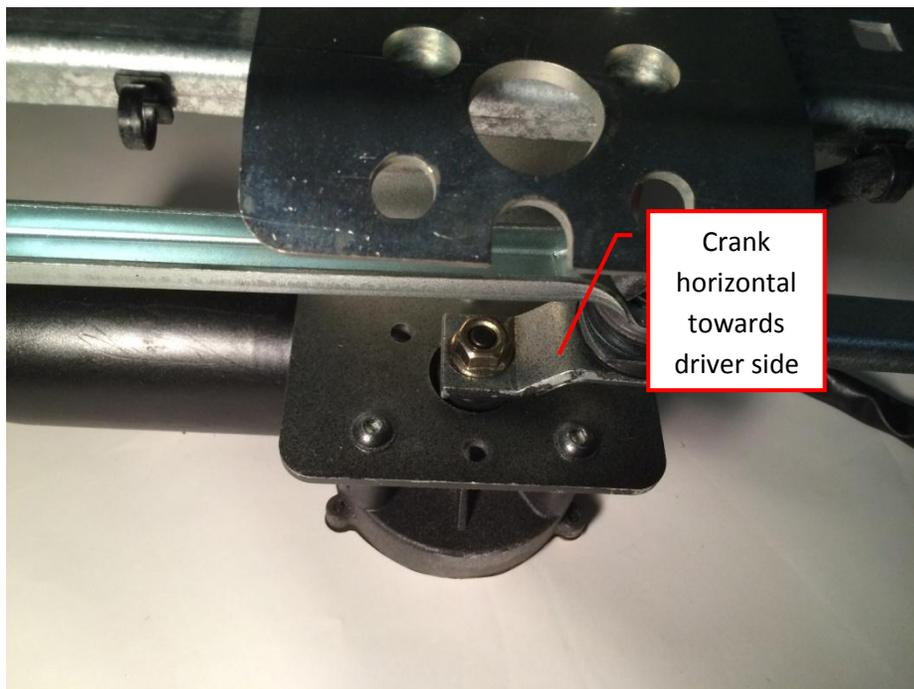

Fig. 3 Motor crank arm in the proper park position
1. Check the orientation of the wiper module motor crank arm. It should be horizontal (within a few degrees) and pointing towards the driver side of the vehicle. If it is not, refer to the separate procedure "setting wiper module park position" and correct if necessary before proceeding (fig. 3).